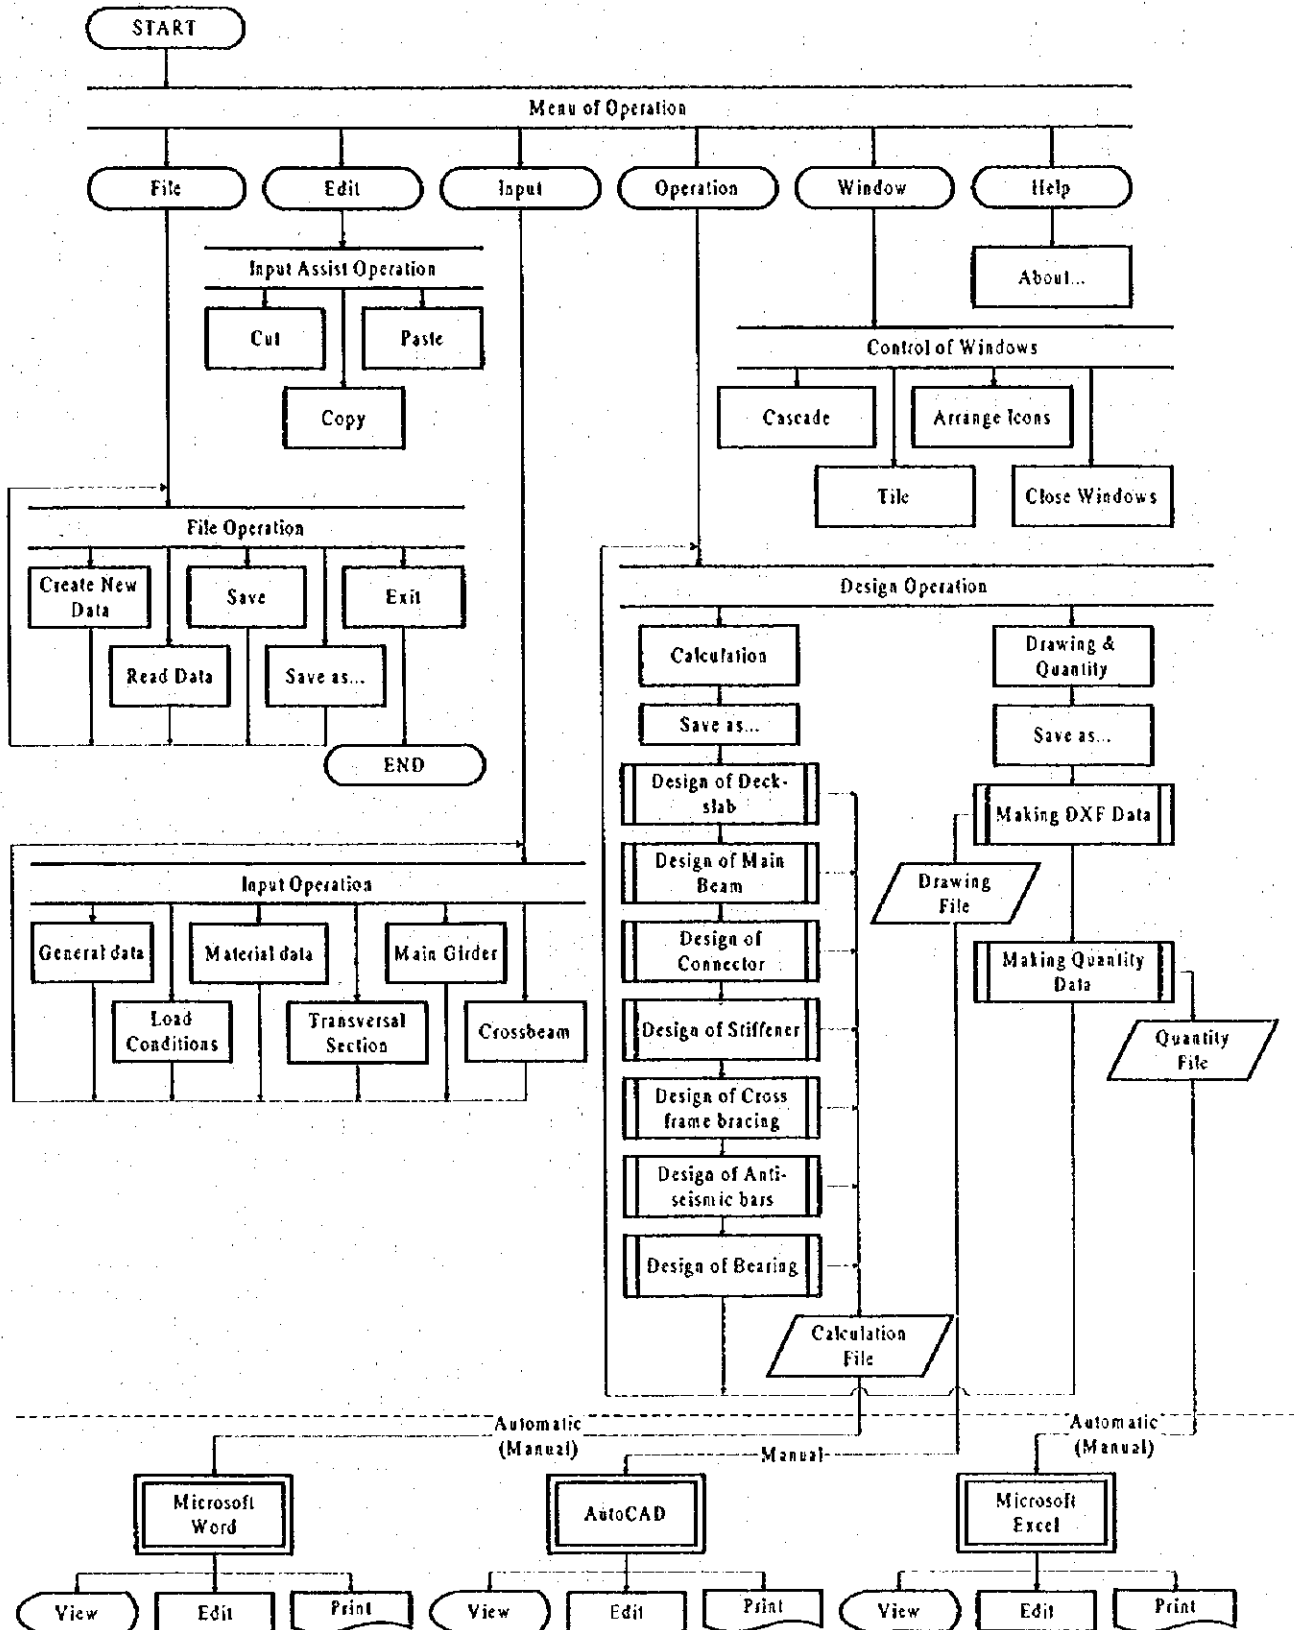

Figure 1.3 Outline of CADD Program (Steel Beam)
- The outline of each CADD program for superstructure (steel beam and PC beam) and substructure (abutment and pier) are shown in Figure 1.3 through Figure 1.6.